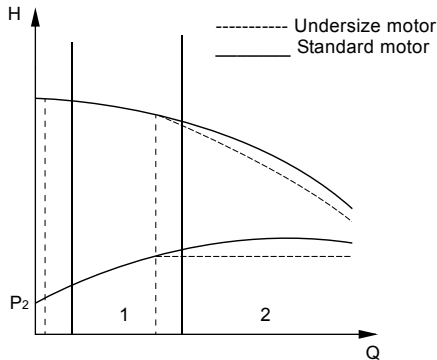

Fig. 32 Standard performance curve compared to a curve for a pump fitted with an undersize MLE motor.
Figure 32 shows that a pump operating at low flow rates and relatively high pressures (1) can be fitted with an undersize motor with a rated power that matches this operating range. At higher flow rates and relatively lower pressures (2), the motor will reduce its speed when the power limit is exceeded and follow a steeper curve corresponding to the power available.